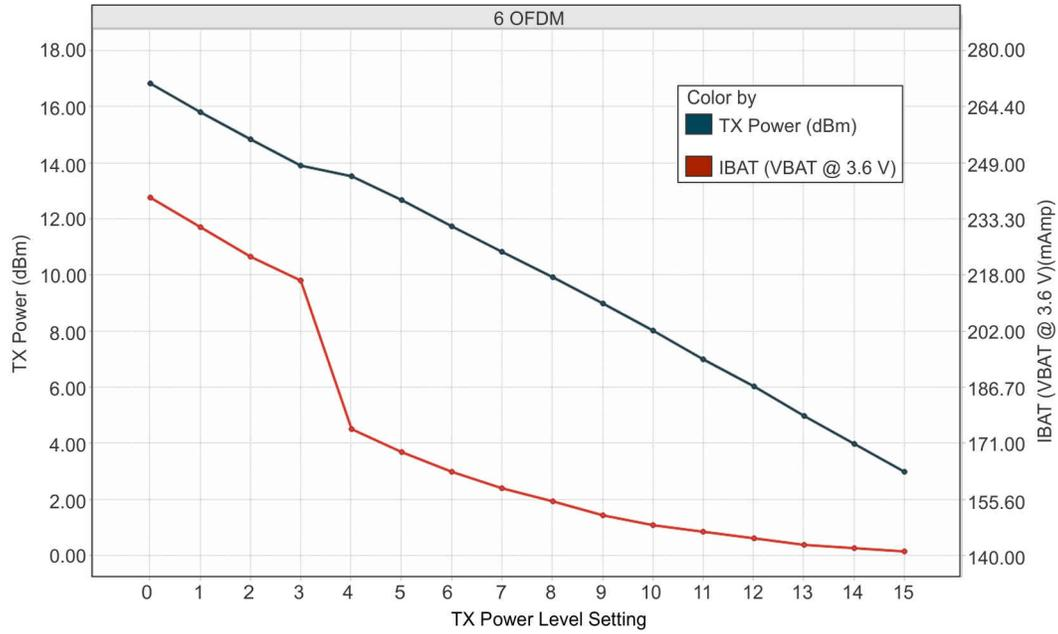
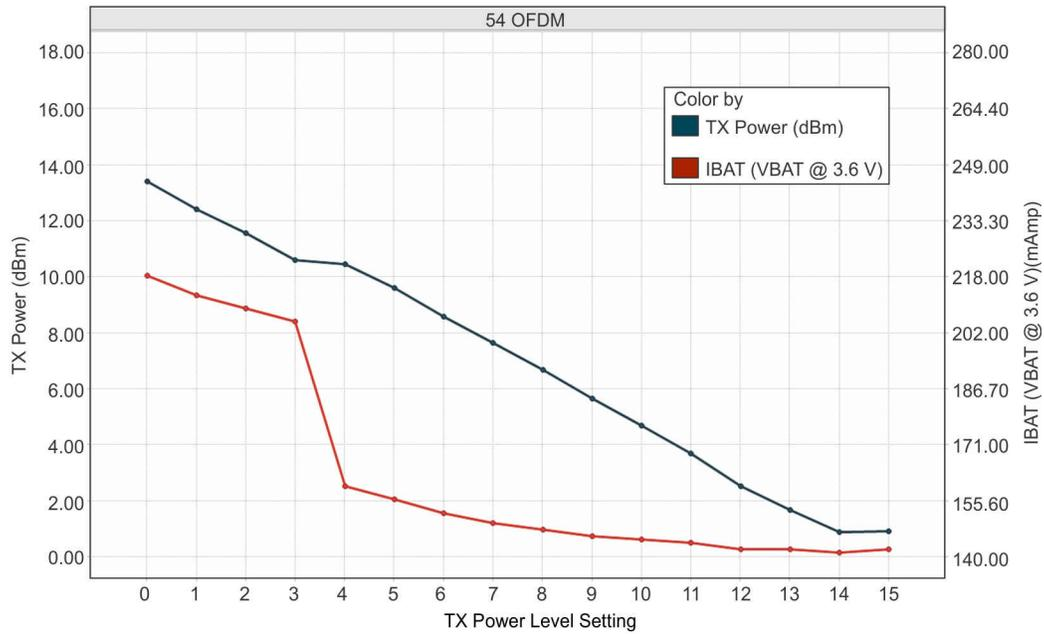

图 8-2. TX Power and IBAT vs TX Power Level Settings (6 OFDM)
图 8-3. TX Power and IBAT vs TX Power Level Settings (54 OFDM)
- (1) TX power level = 0 implies maximum power (see 图 8-1, 图 8-2, and 图 8-3). TX power level = 4 implies output power backed off approximately 4 dB.
- (2) The CC3135MOD system is a constant power-source system. The active current numbers scale based on the V_{BAT} voltage supplied.
- (3) The RX current is measured with a 1-Mbps throughput rate.
- (4) DTIM = 1
- (5) The complete calibration can take up to 17 mJ of energy from the battery over a time of 24 ms. In default mode, calibration is performed sparingly, and typically occurs when re-enabling the NWP and when the temperature has changed by more than 20°C . There are two additional calibration modes that may be used to reduced or completely eliminate the calibration event. For further details, see CC31XX CC32XX SimpleLink™ Wi-Fi® and IoT Network Processor Programmer's Guide.
- (5) The complete calibration can take up to 17 mJ of energy from the battery over a time of 24 ms. In default mode, calibration is performed sparingly, and typically occurs when re-enabling the NWP and when the temperature has changed by more than 20°C . There are two additional calibration modes that may be used to reduced or completely eliminate the calibration event. For further details, see CC31XX, CC32XX SimpleLink™ Wi-Fi® and IoT Network Processor Programmer's Guide.